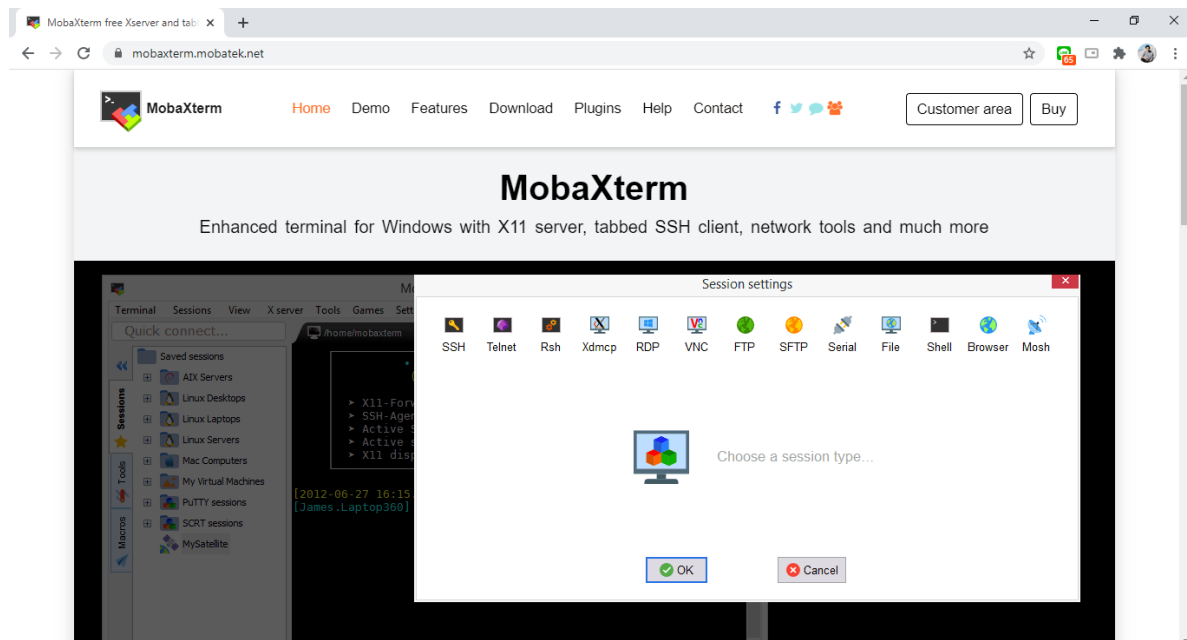

Figure 2-2 MobaXterm Website
1. Please download MobaXterm installation file via this link: <https://mobaxterm.mobatek.net/> then, click the tab "Download" as shown in Figure 2-2.